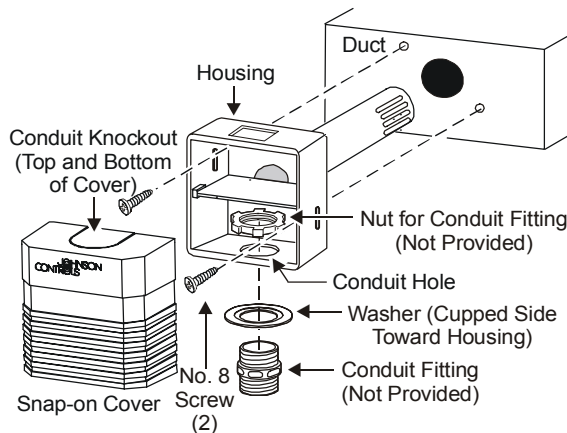

Figure 4: Mounting and Assembly
To mount the humidity device, refer to Figure 4, and proceed as follows:
2. Break out the plastic knockout on the cover (shown in Figure 4) with pliers to accommodate the wiring or conduit.